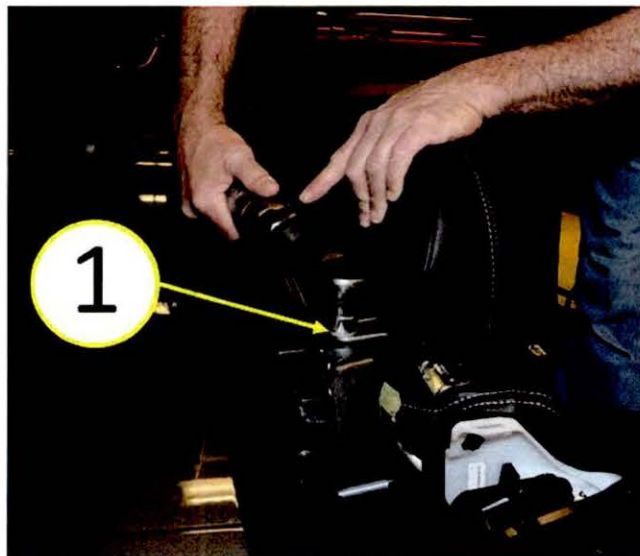

Fig. 10 Seat Back Bolts
13. Remove two bolts at top of rear seat securing rear seat back to body (Fig. 10).